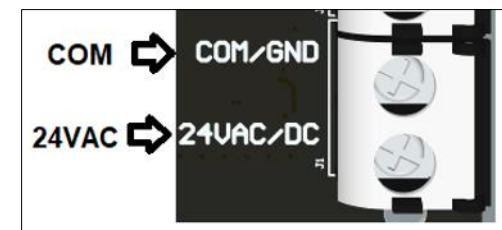

Figure 1. 24VAC connections
7. AC powered: Connect the AC power wires to wire terminals COMMON and 24VAC/DC maintaining the correct polarity. See Figure 1